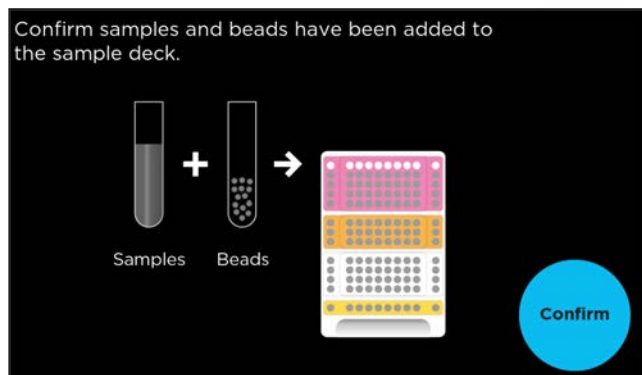

Figure 9. Sample confirmation.
2. Confirm that samples and beads have been correctly added to Row A1 of the tube carrier assembly in the sample deck (Figure 9).